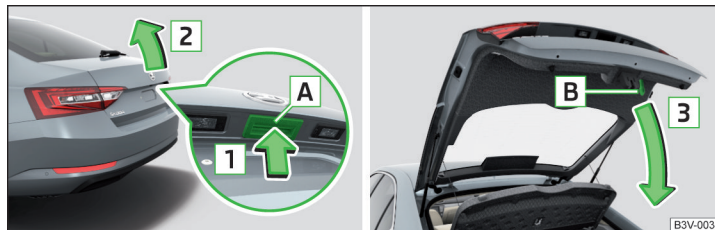

Fig. 55 Opening / closing tailgate
- ▶ To **open**, press the **A** button in the direction of arrow **1** → Fig. 55.
Button  » Fig. 55 is deactivated when starting or at a speed of more than 5 km/h. The button is activated again after the vehicle has stopped and a door is opened.